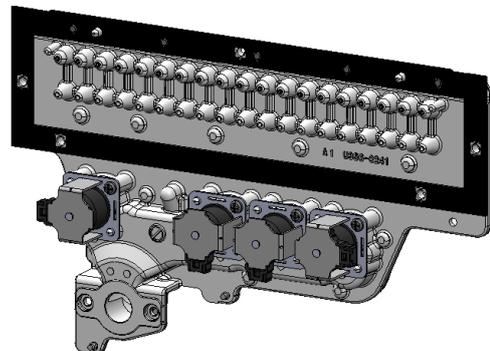

Figure 6
10. Rotate the existing gas manifold assembly to access the solenoid wire connections (Figure 6).